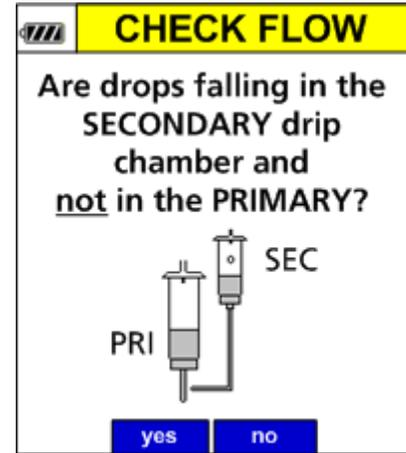

Figure 15. Secondary Check Flow.
- The screen (See Figure 15.) prompts the clinician to verify drops are falling in the secondary drip chamber and not in the primary.